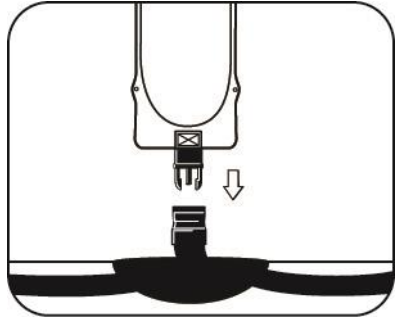

**FIGURE 8**
2. Inflate yellow support arch by mouth using red oral tube (See Figure 8).